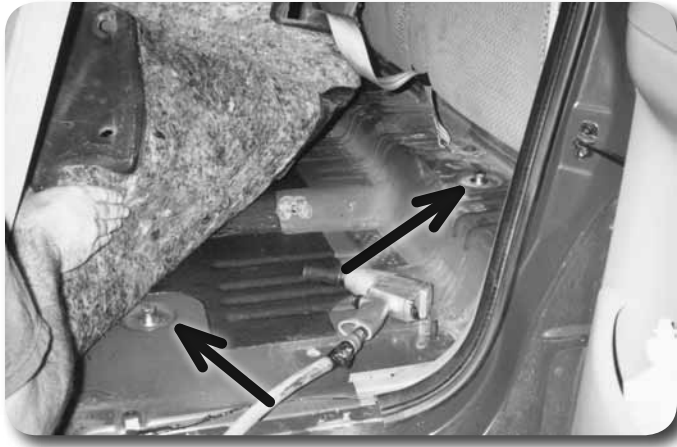

Figure 4
8. Pull the carpet back behind the front seat to expose the rear cab mounting bolts **Figure 4**. There are four on super cabs and two on standard cabs.